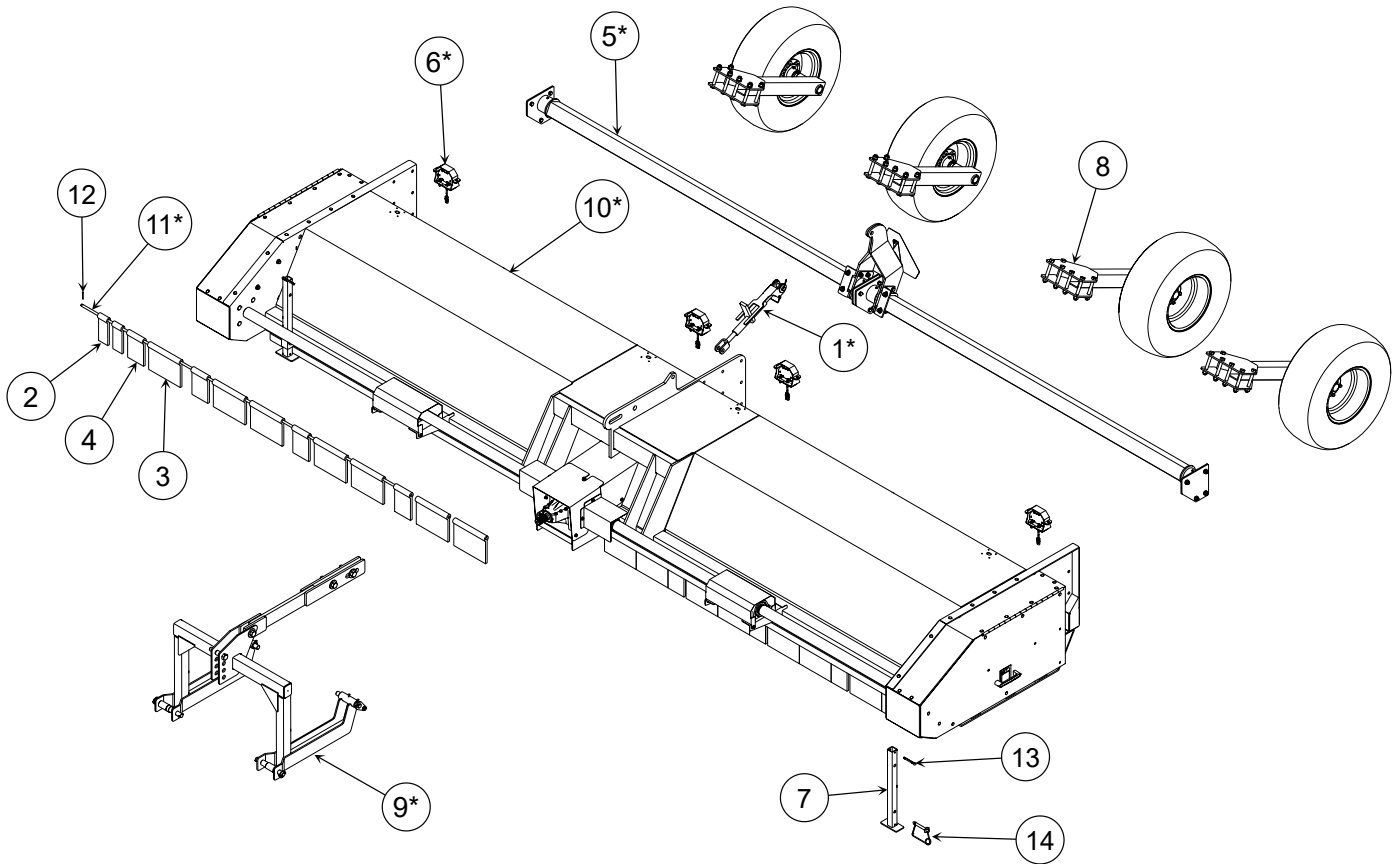

Figure 47. Pull-type Hitch Installed
5. Attach tow chain to hitch. See Figure 47 for completed assembly.